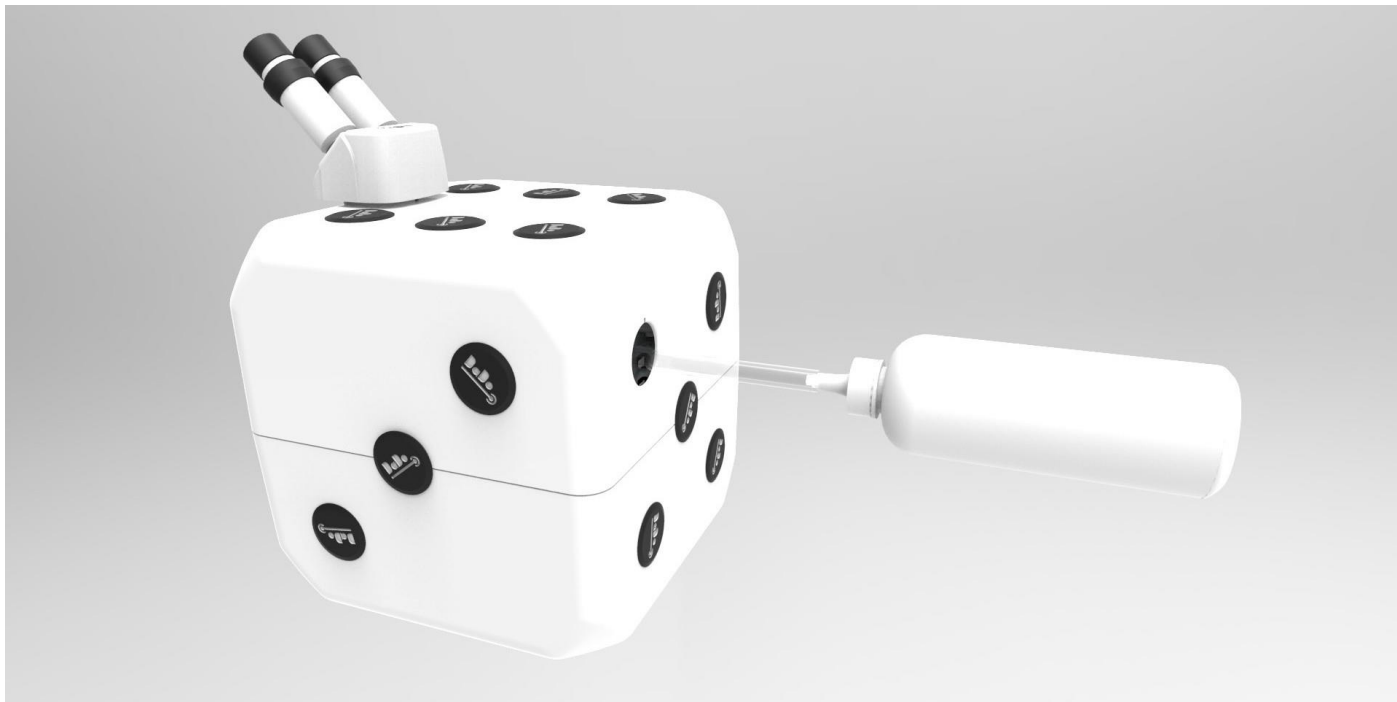

Figure 35 - Adding coolant
- Remove the top left cap from the back of the machine as shown in figure 35.